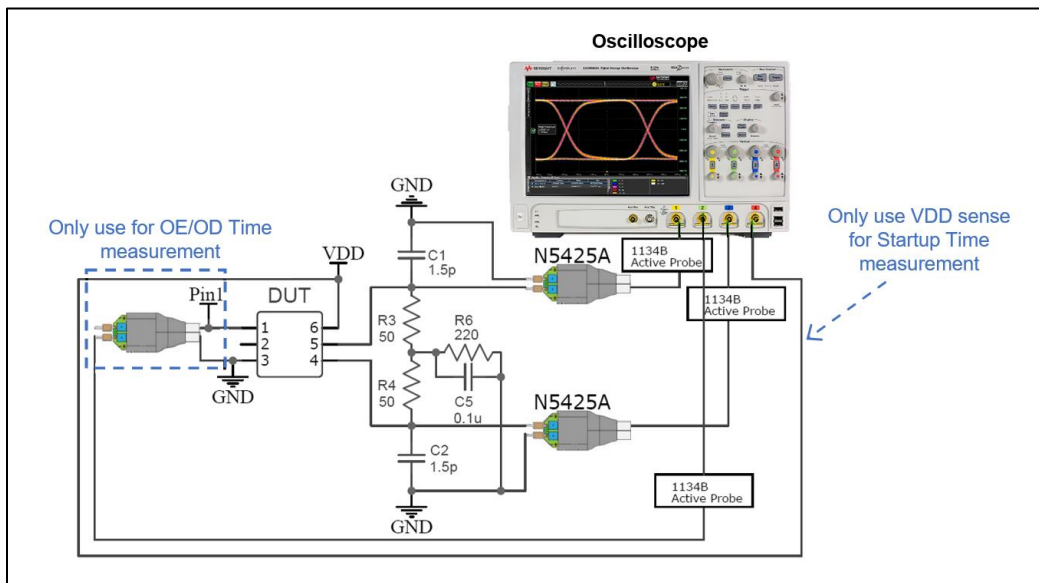

Figure 7. Test setup to measure FlexSwing Output Waveform Characteristics, Current Consumption^[18], Output Enable/Disable Time, and Startup Time
- 15. See Figure 7 for the test setup to measure LVPECL Current Consumption with Termination 1 or without Termination.